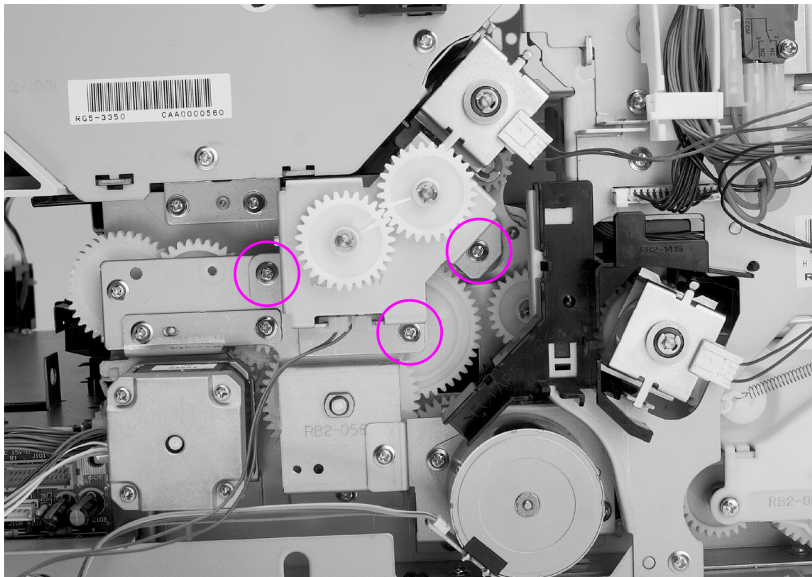

Figure 6-53 ITB clutch assembly removal and replacement (2 of 2)
- 6 Remove the three screws shown in Figure 6-53 and remove the clutch assembly.